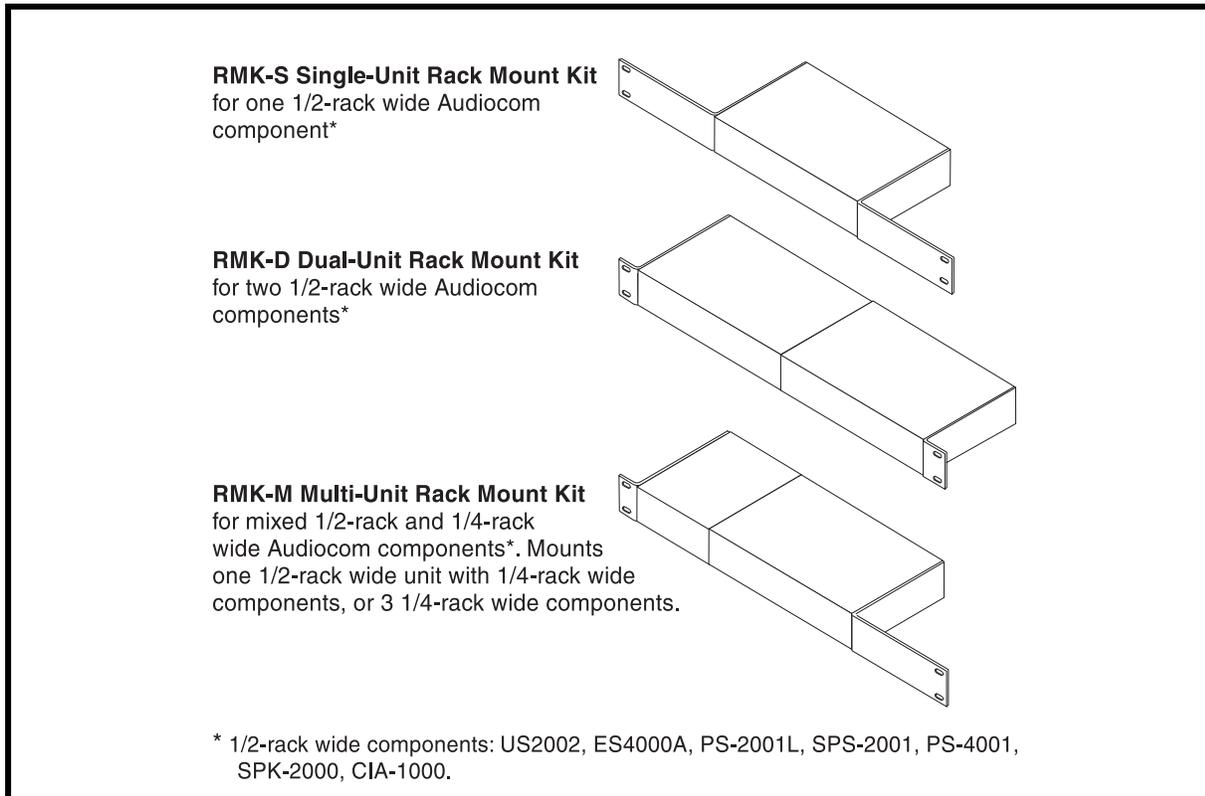

FIGURE 3. Audiocom RMK Rack Mount Kits
The US-2002 can be used on a desktop, or it can be rack mounted. For desktop use, install the four (4) rubber feet supplied with the US-2002. For rack mounting, use optional Audiocom RMK Rack Mount Kits (Figure 3).